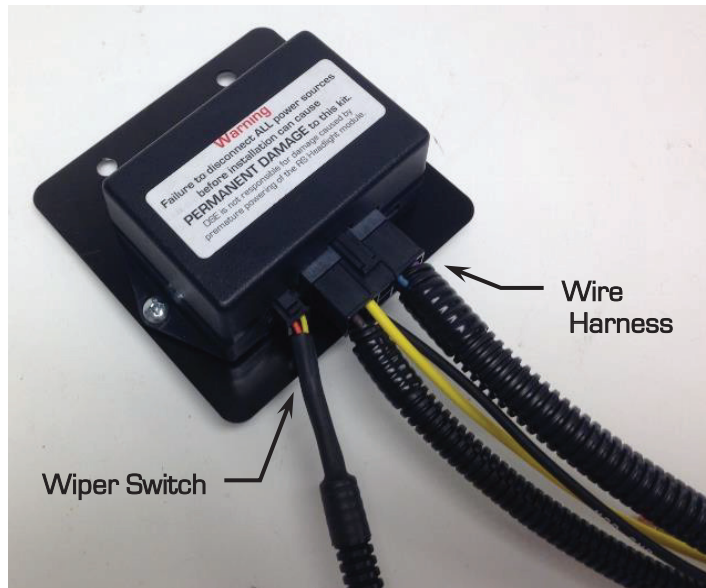

Figure 15 - Connect Wiper Switch & Harness to Module
21. With the wiper control module mounted in place, plug in the wiper switch and wiring harness connectors into the control module (Figure 15 on the next page).